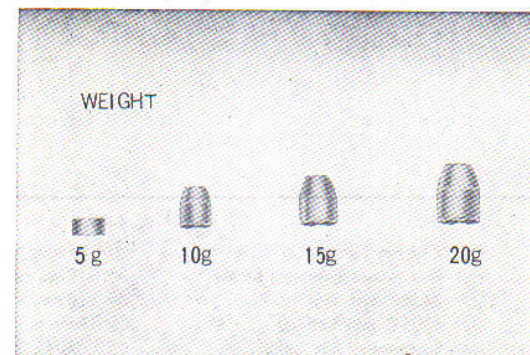

Fig. 4.87 Balance weight
- (1) Raise the front wheel off the ground and revolve the wheel slowly and allow the wheel to stop naturally.
- (2) Attach an appropriate weight on the spoke nipple which is at the highest point. (4 different weights are available) (Fig. 4.87)
- (3) Repeat this operation until the balance weight no longer stops in the same position.
- (4) When the balancing is completed, fasten the weight securely.